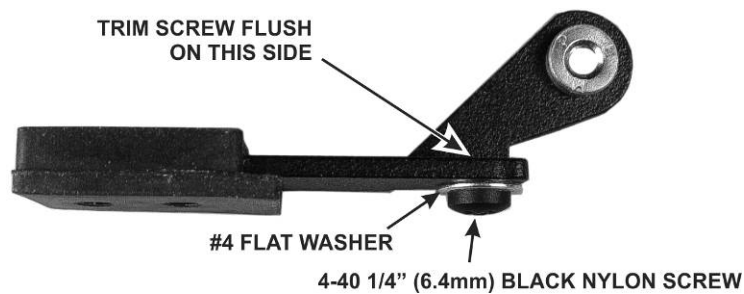

Figure 42. Placing Nylon Bumpers on the Tilt Legs.
- Install a flat washer and black nylon screw on each tilt leg as shown in Figure 42. Note the orientation of the screw as well as the rubber foot that you installed earlier. They must be as shown for the foot to work properly.